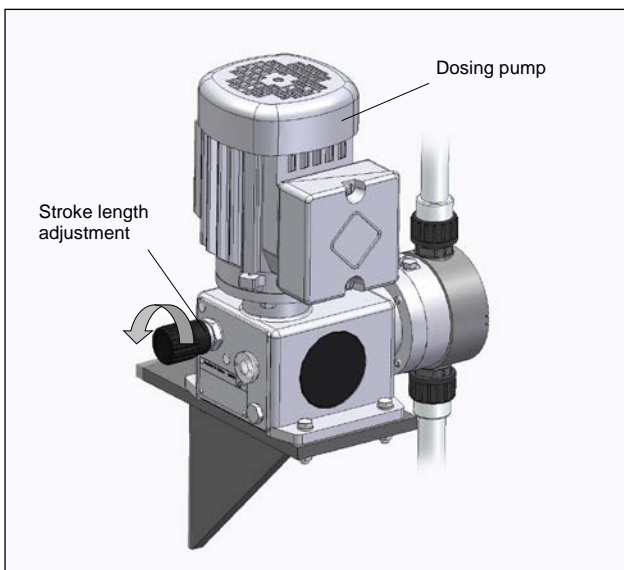

Fig. 17
- Start-up pump / system; increase delivery rate of the pump slowly by adjusting the stroke frequency and / or the stroke length up to the maximum value (see Fig. 17).